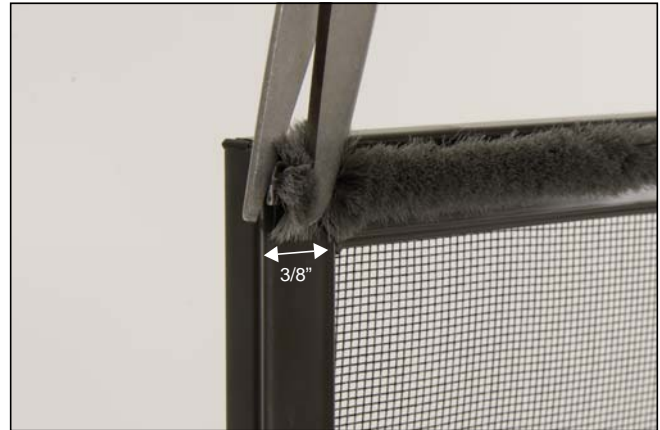

Figure 3
3. Trim the pile to 1/8" (3) tall, 3/8" (10) from the edges of the screen. See figure 3.